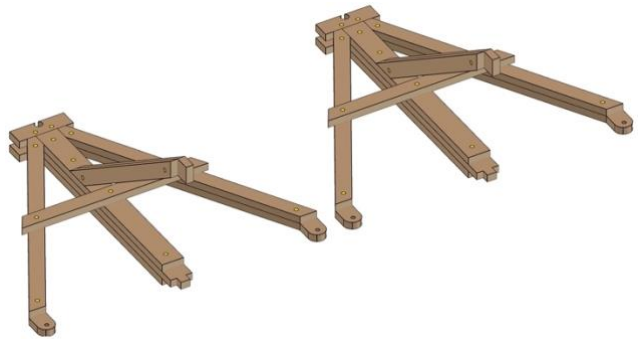

Fig. 52.2
- *Fig. 52.2* shows the completed process (make two parts).